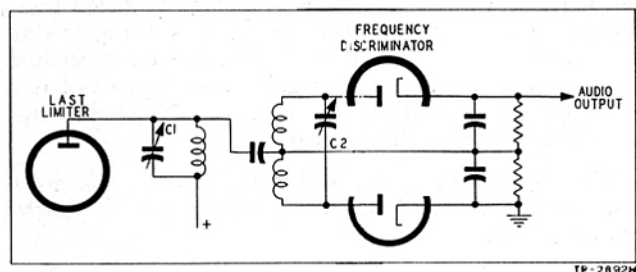

Figure 12. Limiter-Type FM Detector, Simplified Circuit
The limiter-type detection system, which is used in many of the FM radios in the field, is characterized by a double-diode frequency discriminator (fundamental circuit shown in figure 12) and one or two limiter stages. The limiter stages remove the greater percentage of amplitude modulation from the i-f signal, so that it is impossible to employ an audio output meter for making the alignment. However, the i-f signal in the limiter stage causes d-c grid-current flow which is dependent
4. Turn the discriminator balancing trimmer (C2 in figure 12) down tightly, thus detuning the discriminator tuned circuit.
5. Set the generator output just high enough to provide a reliable indication on the audio output meter, and adjust the plate circuit trimmer (C1 in figure 12) for maximum audio output.